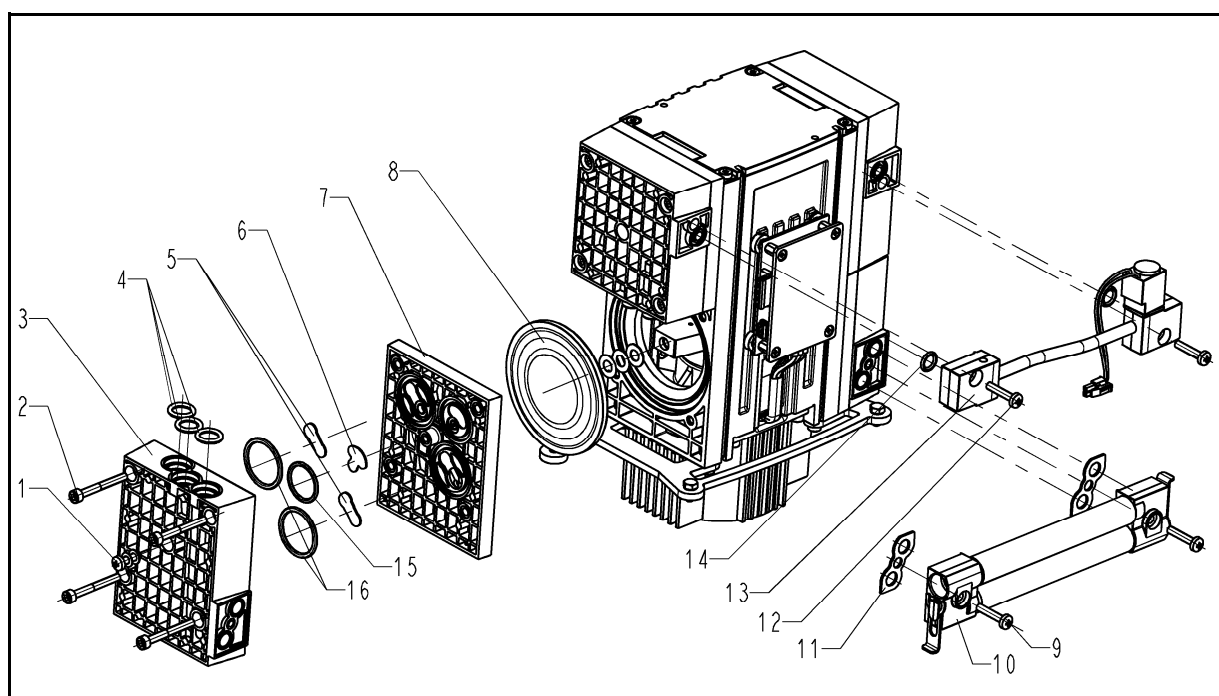

Fig. 22: Exploded drawing of pump SC950
7. Loosen the 16 attachment screws (Fig. 22/2) on the heads (**1** to **4**) and remove the heads (**1** and **2** as well as **3** and **4**).8. Pull apart heads **1** (Fig. 25/I) and **2** (II) and heads **3** (III) and **4** (IIII) and remove O-rings (**4**).
3. Place heads 1 and 2 and heads 3 and 4 onto the compressor housing; alternately tighten attachment screws (Fig. 22/2) to hand-tightness.
Replaced diaphragms and valve plates.	→ Check that the correct diaphragm spacers are placed under the diaphragms. → If necessary, carefully tighten the pump head fixing screws (Fig. 22/2, p. 51) in diagonally opposite sequence.